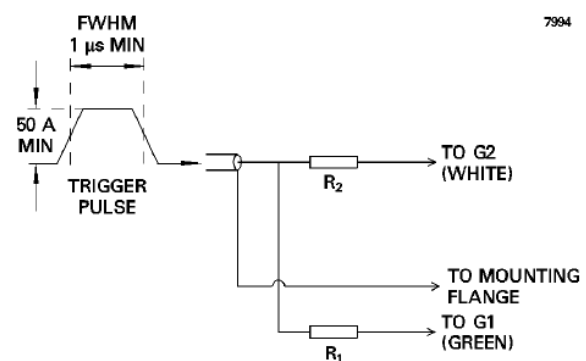
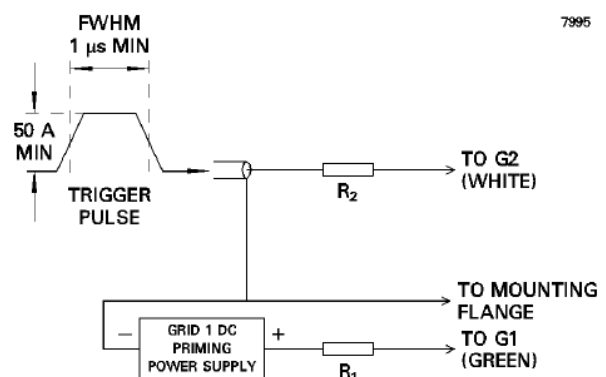

Fig. 2a: Trigger Connections for Pulse Shared between Grid 1 and Grid 2
Fig. 2b: Trigger Connections for DC Priming of Grid 1, with Pulse Applied to Grid 2
The HX3020 incorporates two trigger electrodes and there are two alternative methods recommended for triggering. Fig. 2a shows the simplest method, where the applied pulse is shared between grid 1 and grid 2 with suitable series grid resistors. Fig. 2b shows an alternative method whereby a DC priming current, derived from a simple DC power supply, is applied to grid 1. The trigger pulse is applied to grid 2.
Grid 1 DC Priming Requirements (see note 9 and Fig. 2b)
9. The magnitude of the grid 1 DC priming current is determined by the series grid resistor (see Fig. 2b).